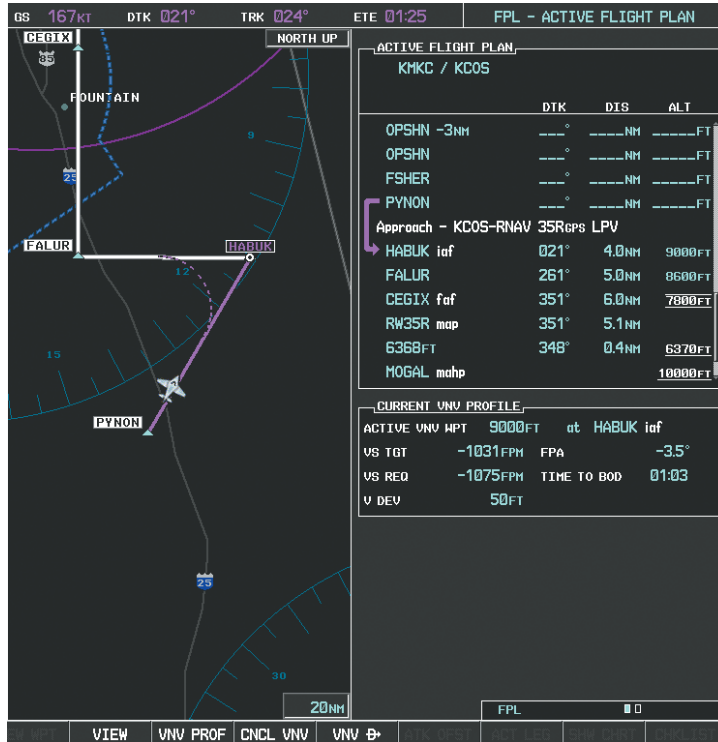

Figure 5-137 Approach is Now Active
21) Upon passing PYNON the approach procedure automatically becomes active. The approach may be activated at any point to proceed directly to the IAF. In this example, the aircraft has progressed through the final waypoint of the arrival and the flight plan has automatically sequenced to the IAF as the active leg, activating the approach procedure (see Figure 5-137).